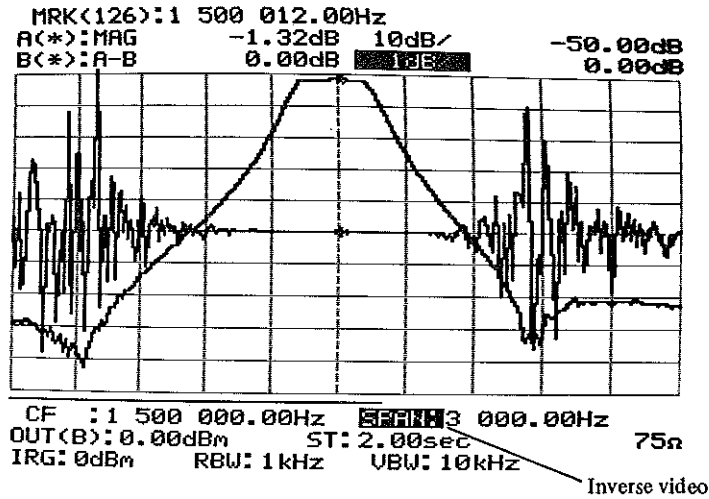

Fig. 2-25 Inverse Video Display
- (1) When changing condition of items that is shown on an inverse video line as in Fig. 2-25, only set data may be set by using method d.